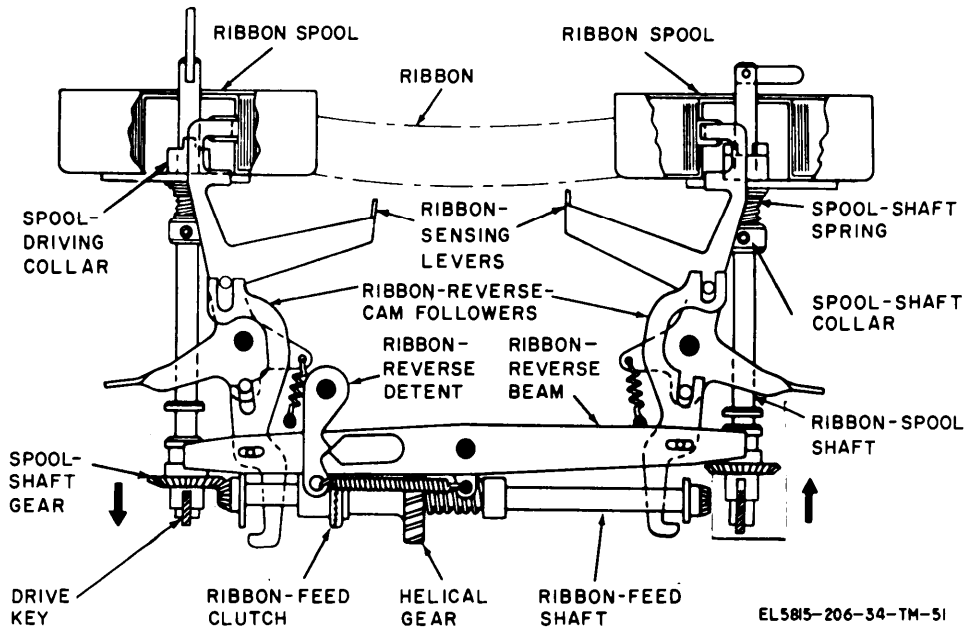
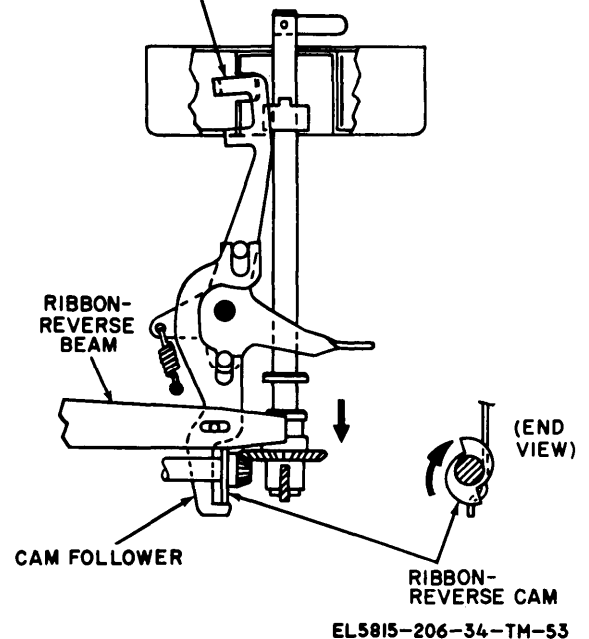

Figure 2-51. Ribbon-feed mechanism positioned for feeding ribbon from right ribbon spool to left ribbon spool (TT-4A/TG, TT-4B/TG, TT-698/TG and TT-698A/TG).
Figure 2-53. Ribbon reverse mechanism.
Two ribbon spools and enough ribbon to fill one of the spools are mounted on the carriage (fig. 2-51). During operation of the page printer, one of the spools turns slowly to pull the ribbon from the opposite spool (*a* below). When the ribbon is almost completely wound on one spool, the ribbon-reverse operation (*b* below) reverses the direction of ribbon feed.
*b. Ribbon-Reverse Operation.* The ribbon-reverse beam, ribbon-reverse cam, ribbon-reverse cam follower, and ribbon-sensing lever on each side of the ribbon-feed mechanism (fig. 2-51) are used to reverse the direction of ribbon feed.
(1) When the left end of the beam is in the downward position, the left spool-shaft gear is in mesh with its associated bevel gear on the end of the ribbon-feed shaft. Operation of the page printer causes the left ribbon spool to rotate, pulling the ribbon from the ribbon spool on the right side of the ribbon-feed mechanism.
(2) When the final turn of ribbon is being unwound from the right ribbon spool, the upper end of the right ribbon-sensing lever (fig. 2-53) moves to the left, through an opening in the hub of the ribbon spool. The lower end of the cam follower moves under the ribbon-reverse cam on the right end of the ribbon-feed shaft. Continued rotation of the shaft causes the cam to push the cam follower downward, pulling the right end of the ribbon-reverse beam downward. The right spool-shaft gear also moves downward into engagement with its associated gear on the ribbon-feed shaft; the left spool-shaft gear moves upward out of engagement with its associated gear; and the direction of ribbon feed is reversed.
(3) When the carriage moves to the left margin during the carriage-return operation, the helical gear rotates very rapidly in a direction opposite the normal ribbon-feeding direction. The ribbon-feed shaft remains motionless during the carriage-return operation because the helical gear moves to the right against the pressure of its spring, and the ribbon-feed clutch members are kept out of engagement until the carriage stops at the left margin.